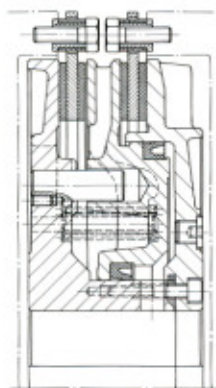

fig. 2 LKB
**All screws (pos. 26, 39, 43, 44 and 53) must be tightened with a torque wrench according to the torque levels given in the table, section 1. We recommend that loctite (or a similar locking sealant) be used to secure the screws when operating under heavy shock load conditions.**
#### 4.1.1 Installation of the brake disc (6) on C-B-C type LKB (fig. 2, 3, 4)
#### 4.1.2 Installation of the clutch disc (5) on C-B-C types LKB, LKBBZ and LKBBZU (fig. 2, 3, 4, 7, 8)